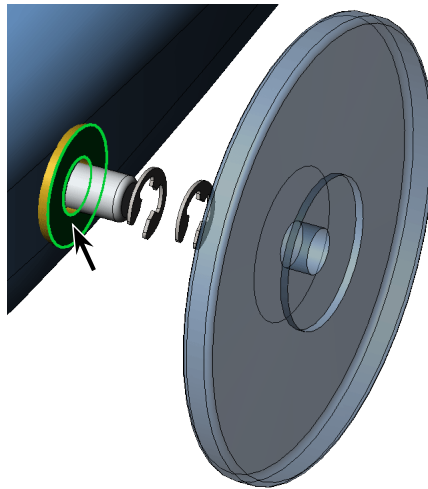

Fig. 16
Step 1. Click **side face of Washer**, Fig. 16.